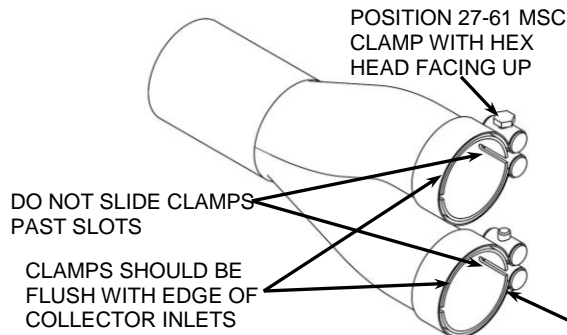

FIGURE 3
11. Position the supplied #27-61 MSC clamps with hex head facing the direction shown in **FIGURE 3** and slide them onto the collector inlets.
15. Secure the muffler assembly to the exhaust mount bracket using the (2) supplied 5/16"-18 bolts but **DO NOT TIGHTEN**.
16. Make sure the muffler assembly, collector, front headpipe, and rear headpipe are aligned properly and tighten in the following order; headpipe flanges to the cylinders (slowly tightening opposing nuts), front headpipe/collector clamp, rear headpipe/collector clamp, muffler clamp, and finally the muffler to the exhaust mount. (NOTE: The muffler clamp and headpipe clamps should be flush with the end of the inlets when tightened. See **FIGURE 3 & 4**. If the clamps are slid past the slots on the inlets the clamps will not tighten properly).